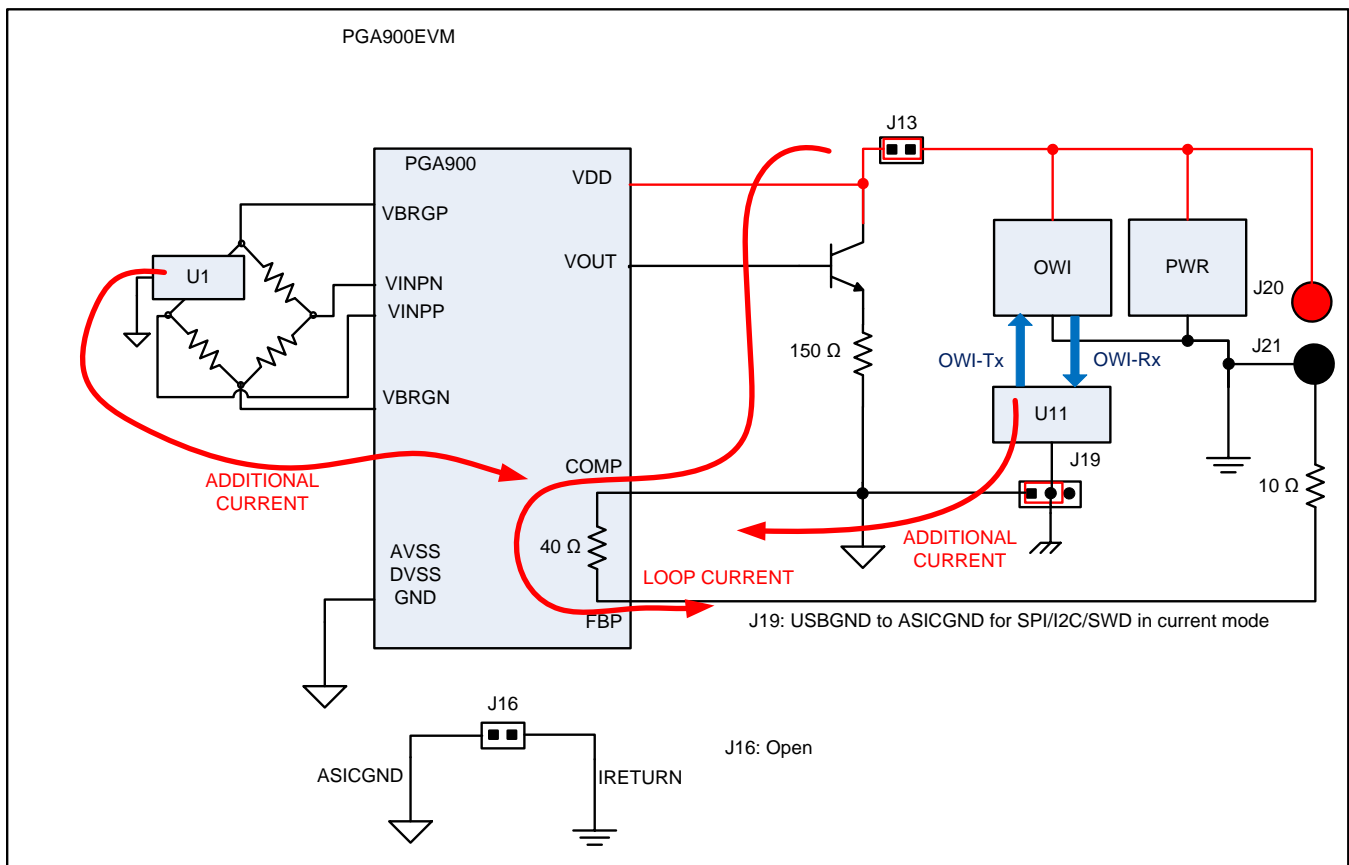
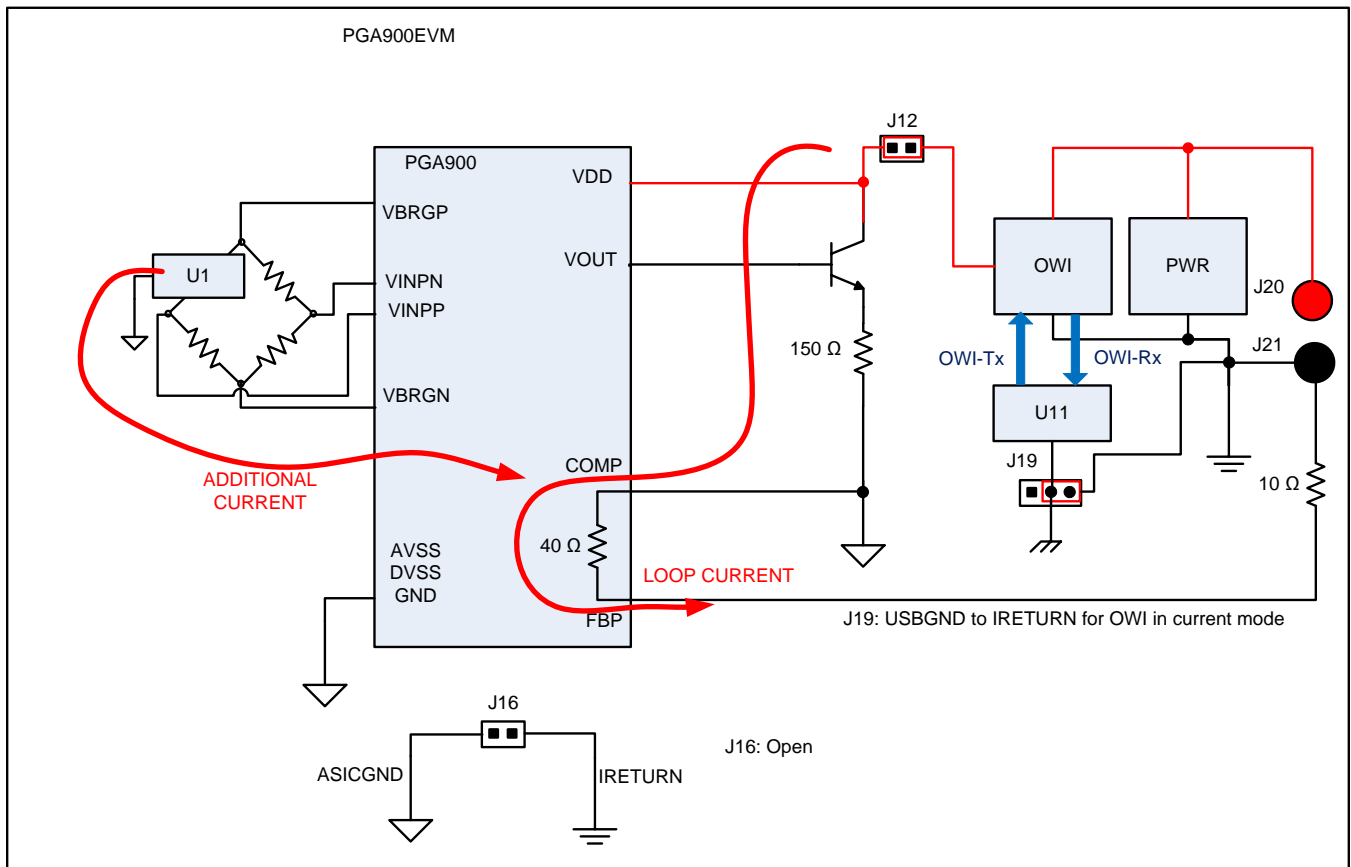

Figure 5. Additional Loop Current in 4-mA to 20-mA Mode When Using SPI/I2C/SWD as Digital Interface
Figure 6. Additional Loop Current in 4-mA to 20-mA Mode When Using OWI as Digital Interface
When in 4-mA to 20-mA loop configuration, there is additional current from ASIC_GND (GND of PGA900) to IRETURN (return path for the loop current) that is caused by the voltage difference created by the 40-Ω resistor inside the PGA900 and the 10-Ω (R9) EVM resistor. This additional current is due to the U11 (when in SPI/I2C/SWD communication) and U1 (digital potentiometer in the resistive bridge). Figure 5 and Figure 6 show this additional current. As a result, the designer should lift J22 and J23 to isolate U1 and should use OWI when using the PGAXxxEVM-034 if they want accurate calibration (firmware required) in 4-mA to 20-mA mode.
- Added Figure 5 8
- Added Figure 6 9